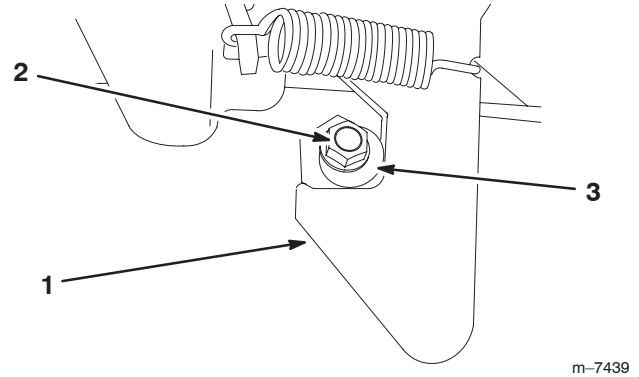

Figure 13
1. Loosen the nut on the end to the latch post (Fig. 13).
2. Turn the latch post clockwise until it is snug against the latch and then tighten the nut (Fig. 13).